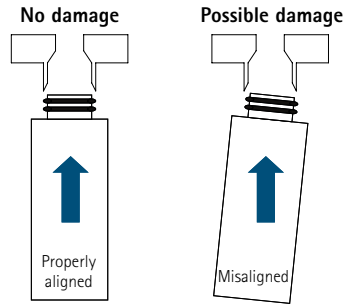

Figure 2: Prevent o-ring damage with proper installation.
- Ensure that the cartridge is properly aligned when inserting the cartridge into the housing head. A misaligned cartridge can result in damage to the o-ring (Figure 2).